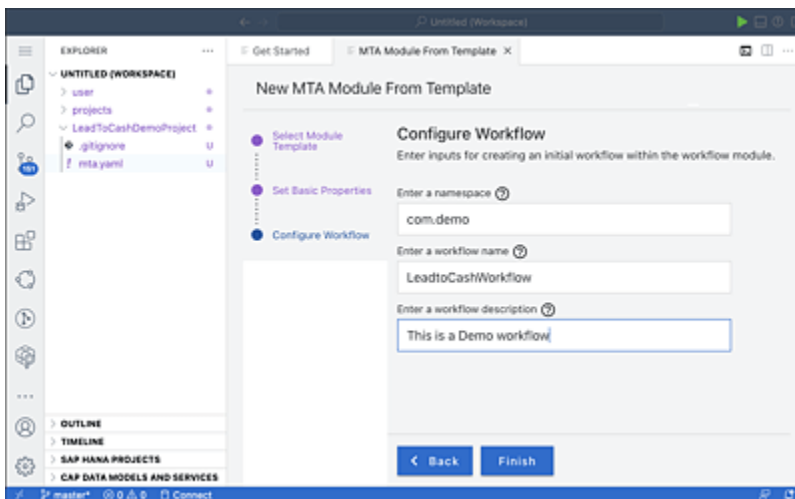

Figure 18.6 Provide a Namespace, Workflow Name, and Description
7. On the screen shown in Figure 18.6, provide a namespace in the **Enter a namespace** field, a workflow name in the **Enter a workflow name** field, and a description in the **Enter a workflow description** field. Click **Finish**.